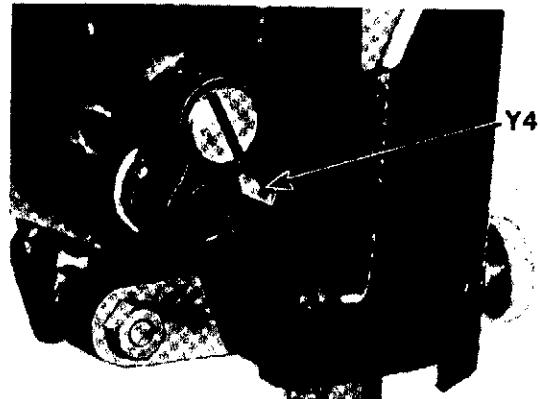

Fig. 258A. To Replace Needle Bar Connecting Link
- (b) Loosen pinch screw Y4, Fig. 258A and disconnect fork.